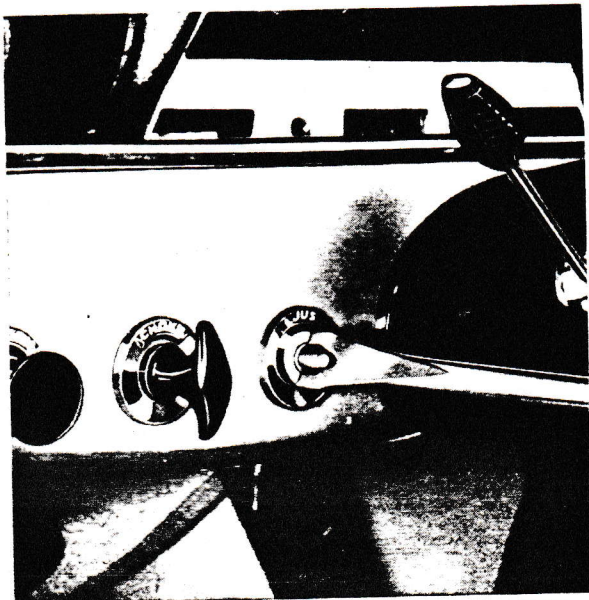

Fig. 94. Removing the lighting switch
2. Unscrew the nut holding the lighting switch with a suitable tool, see Fig. 94.